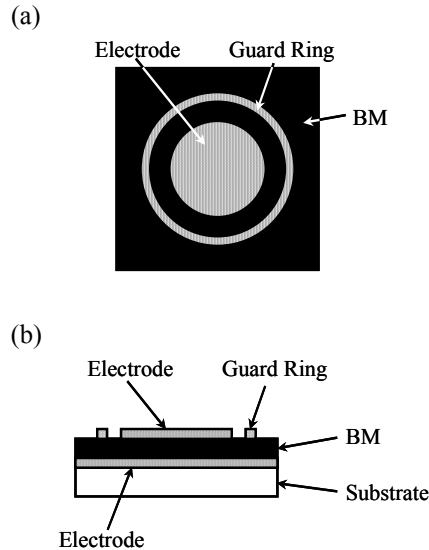

Figure 1
7.1 Manufacture method for measuring specimen (see Figure 1).